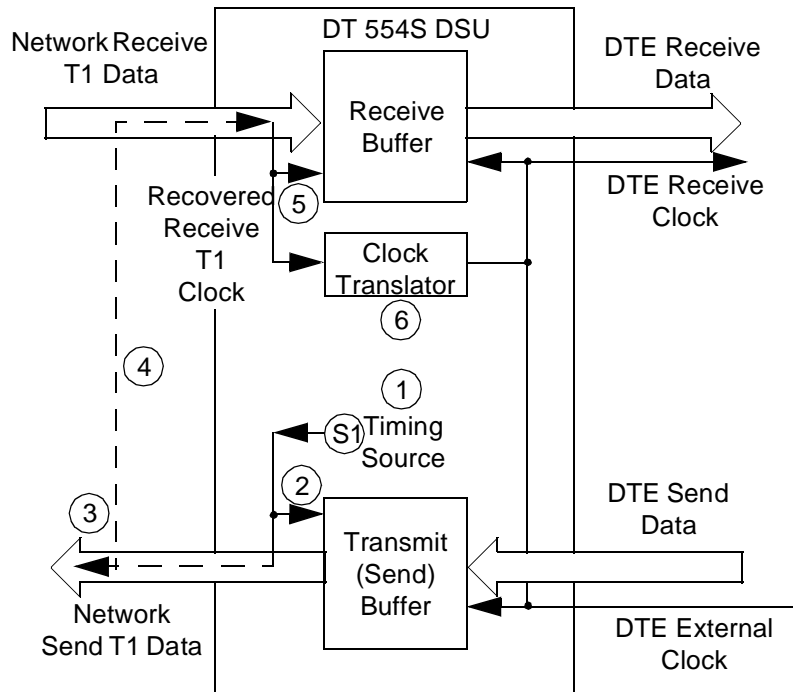

Figure C-2 Internal Timing
With Internal Timing, illustrated in *Figure C-2*, the DT 554S DSU provides the send timing source (1) for T1 data output from the transmit buffer (2) to the network. (This clock satisfies the requirements of a Stratum 4, Level II clock, as defined in AT&T Technical Reference 62411.) The remote DSU uses this as its timing reference (3) and loops it back to the DT 554S DSU (4). The DT 554S DSU recovers the receive T1 clock from the network receive T1 data and uses it to clock T1 data into the receive buffer (5). The DT 554S DSU also translates (6) the receive T1 clock to provide the channel transmit and receive clock signals on the appropriate channel interface leads.